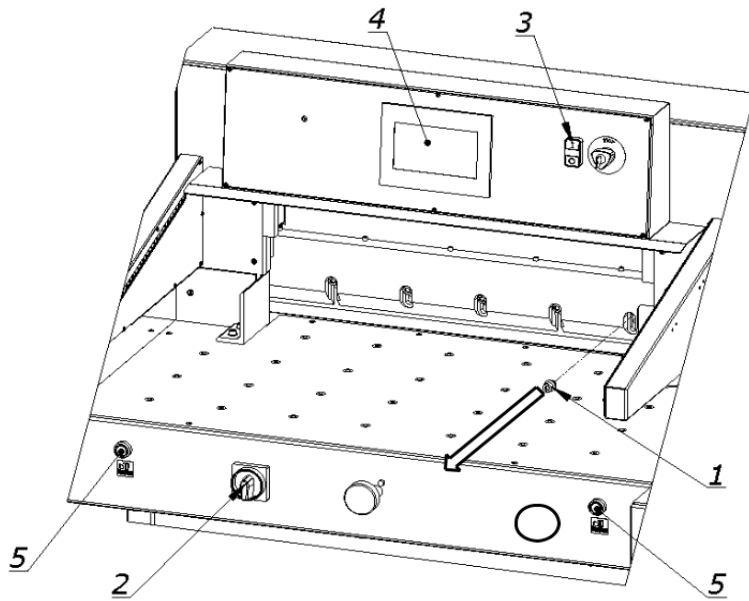

Figure.23
8.1.1.5 Unscrew and remove the first fastening screw 1 from the right side of the cutter bar (Fig. 23).
8.1.1.6 Switch on the power supply of the electrical system by turning the main switch knob 2 (fig.23) to position "I"
8.1.1.8 On the program screen 4 (fig.23), deactivate the "knife change" function
8.1.2.8 Press the "Change knife" function on the programmer 3 (Fig.23)
8.1.2.21 Switch on the power supply to the control system by pressing the green push button 3 (fig.23).